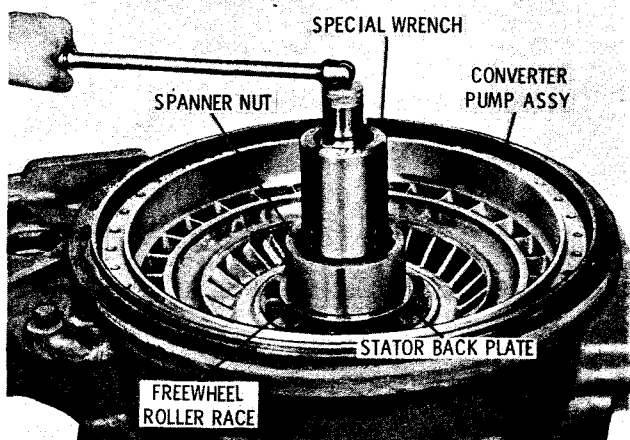

Fig. 7-38. Installing spanner nut to retain torque converter pump
(15) Install the stator back plate, contoured side first (flat side upward), against the pump ball bearing (fig. 7-38). Install the freewheel roller race, flat side first.
(16) Install the spanner nut, thin outer lip upward (fig. 7-38). Using the special spanner nut wrench (refer to para 4-3a), tighten the nut to 275 to 325 pound feet torque.